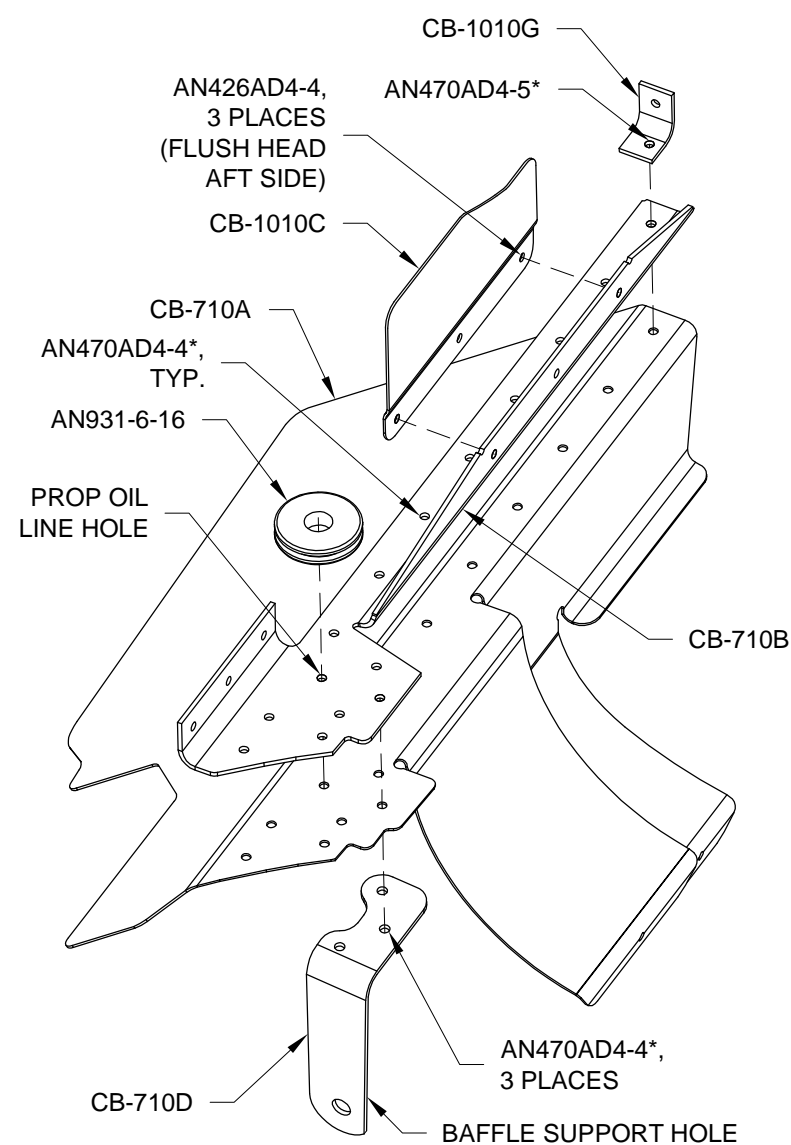

FIGURE 1: CYLINDER 1 BAFFLE RAMP ASSEMBLY
Step 5: Cleco the remaining parts of the Cylinder 1 Baffle Ramp Assembly together as shown in Figure 1. Attach the assembly to the engine as shown in Figure 3.